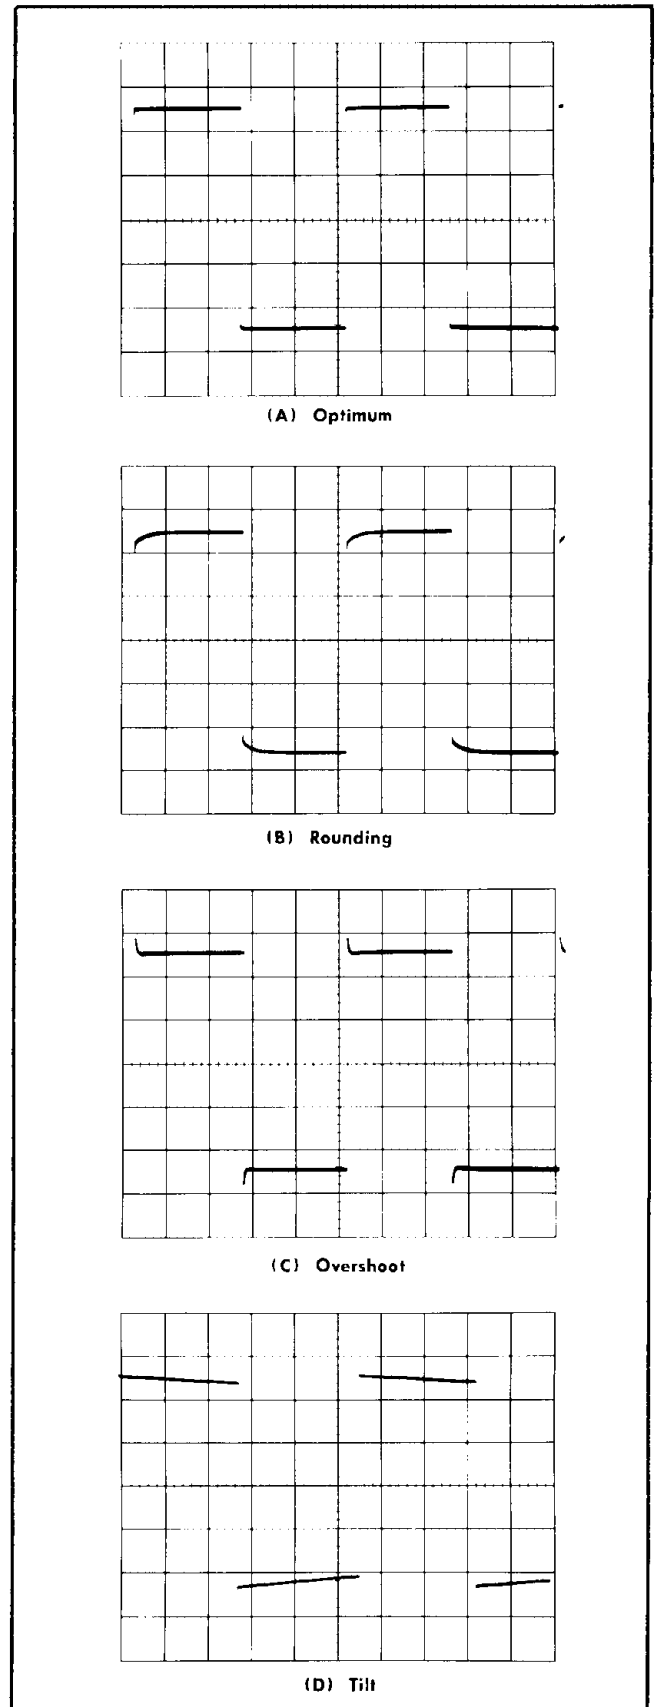

Fig. 5-2. Photographs of the waveform as it may appear when checking the input capacitance and attenuator compensation.
j. CHECK—Displayed waveform; should appear similar to the waveform shown in Fig. 5-2.